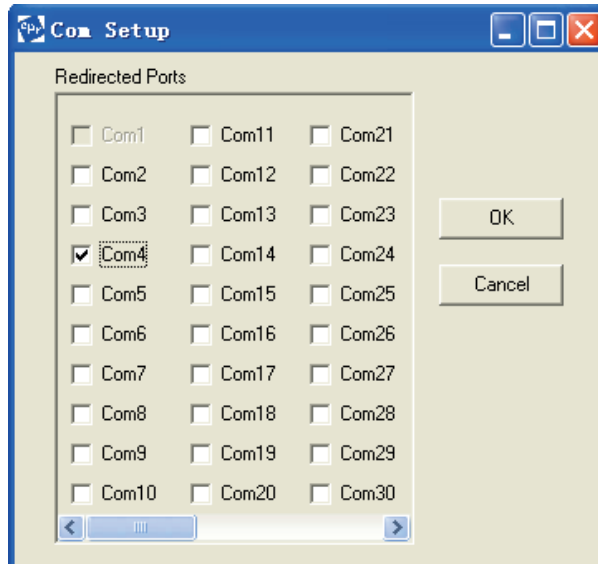

Figure 8: User interface of Com Setup
(2). Click **“Com Setup”** and enter the user interface of Com Setup, shown as figure 8. In this user interface, set up 79 virtual serial ports of Com2- Com80 for PC. Com1 is the existing serial port of PC so you can not set up virtual serial ports. Select one or several serial ports and click **“OK.”**